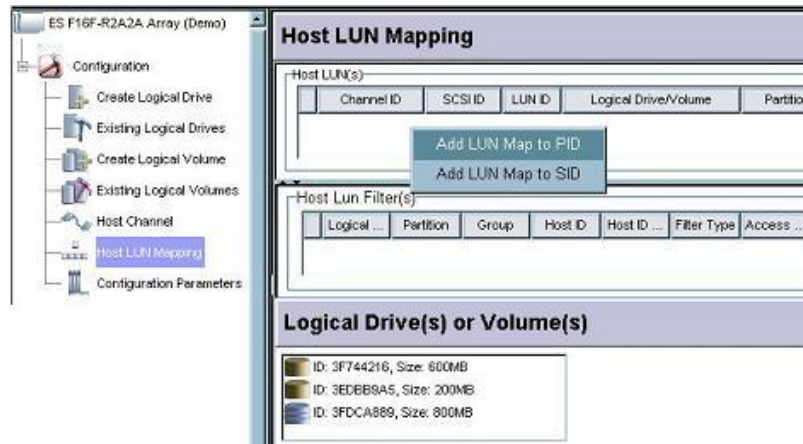

Figure 10-2: Selecting the Host Channel ID Number
Step 2. The LUN mapping window should appear on the right. Right-click on the Host LUN(s) sub-window to display **PID** (Primary controller ID)/**SID** (Secondary controller ID) command menu as shown in *Figure 10-2*. Infortrends' controllers or subsystems always come with pre-configured IDs. If it is necessary to add alternative IDs, please select the **Channel** window from the navigation panel.
Step 1. Follow the steps listed in *Section 10.1* above to access the **LUN Map Setting** window shown in *Figure 10-2*.
Step 1. Follow the steps listed in *Section 10.1* above to access the *LUN Map Setting* shown in *Figure 10-2*. Repeat the process described in *LUN Mapping* to select a Logical Drive, Logical Volume, or a logical partition.